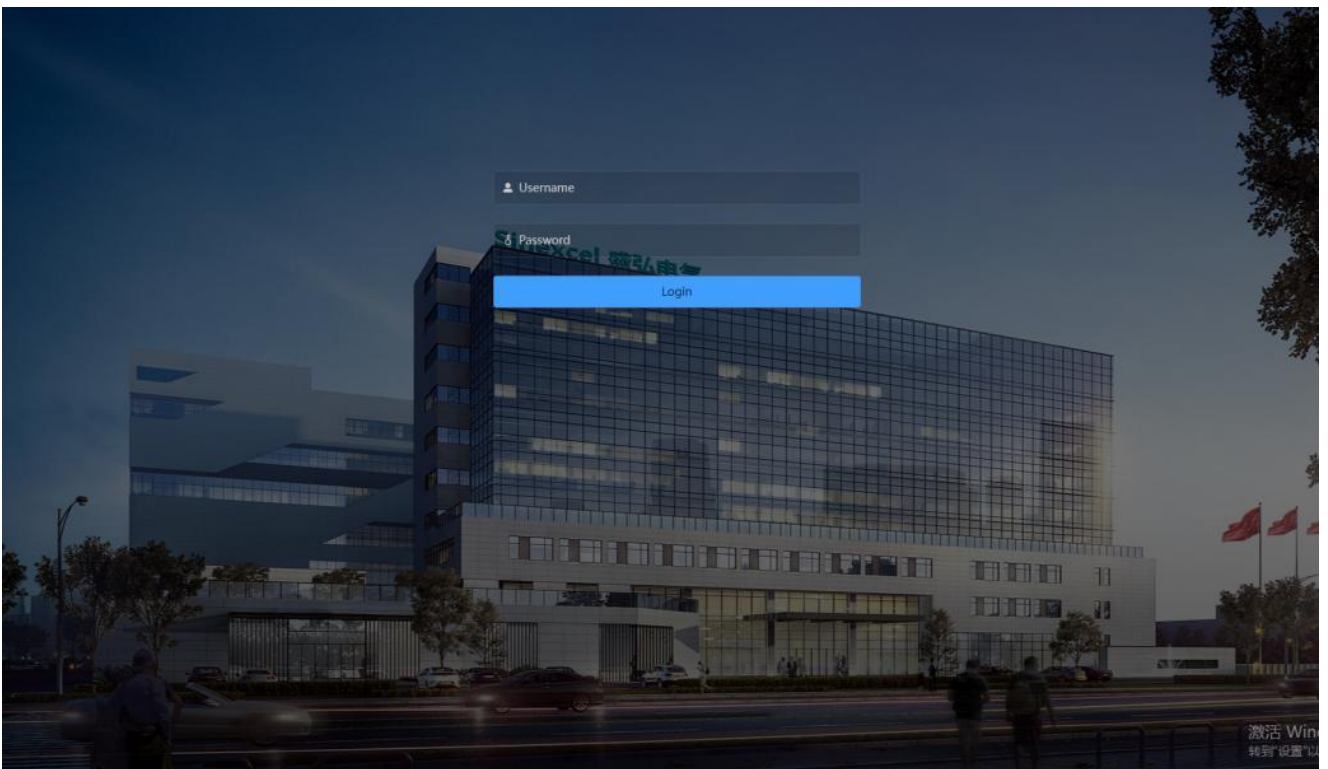

Figure 7.1 Login interface
Use Ethernet connection. First, open a browser on the computer desktop, ensure that the laptop and the device are on the same network segment, and that the laptop's network port is reliably connected to the device's network port 1 or 2. The default IP for U2 monitoring ports 1-2 is 192.168.x.136. Then, enter the machine's default IP(192.168.x.136 in the browser's address bar, and the login interface as shown in Figure 7.1 will appear.
Enter 'user' in the Username field and the initial password '080808' in the Password field. Click 'Login' to access the backend interface of the PMS-U2 control box, as shown in Figure 7.1.
- 4) Open a browser on your computer desktop (Google Chrome is recommended), then enter the machine's default IP address (192.168.1.10) in the address bar. The login interface shown in Figure 7.1 will appear.
Enter 'admin' in the Name field and the initial password '123456' in the Password field. Click 'Log in' to access the PMS-U2 control box backend interface, as shown in Figure 7.1.